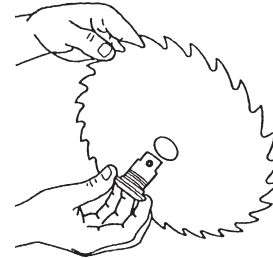

Figure 25
- b. Hold the Blade with the teeth pointing toward you, as shown in Figure 25, then insert the Arbor through the hole. Replace the Nut and finger tighten it.